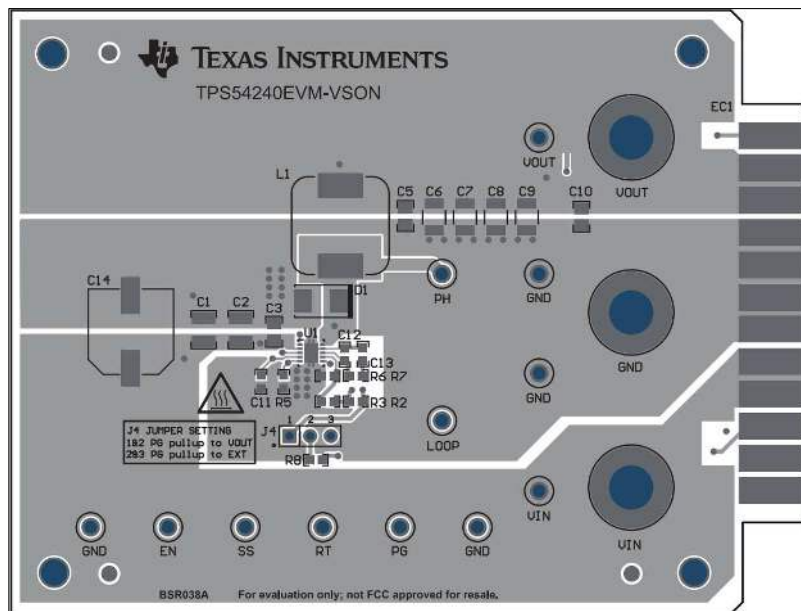
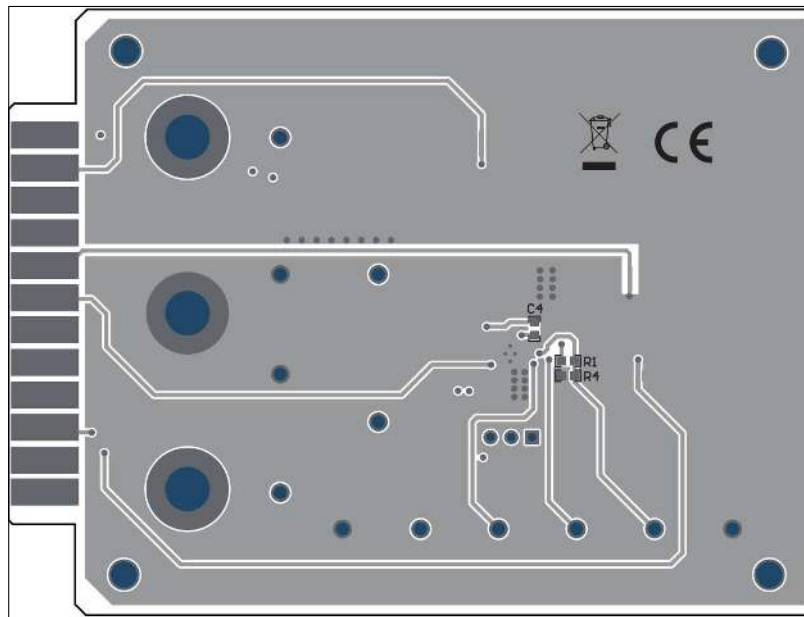

Figure 17. TPS54240EVM-VSON Top-Side Assembly
Figure 18. TPS54240EVM-VSON Bottom-Side Assembly
The board layout for the TPS54240EVM-VSON is shown in Figure 17 through Figure 18. The EVM offers resistors, capacitors and test points to configure the output voltage, enable (EN) pin, set frequency, and external clock synchronization.